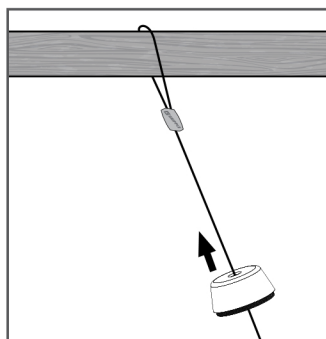

FIGURE 5: THREAD CABLE
2. Thread cable through top cover of speaker. (See figure 5).